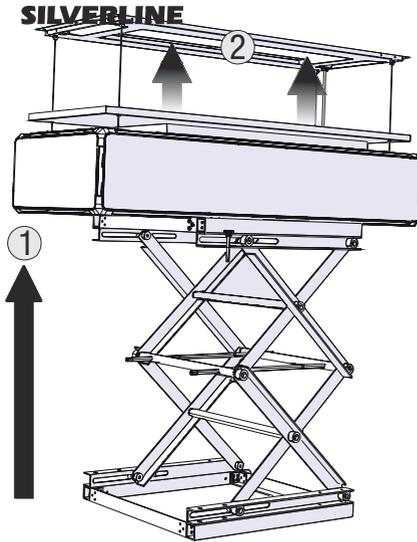

Fig. 25
6. ➤ Place the device on a platform and lift it up (Fig. 25 / 1).
Lift the hanger plate up (Fig. 25 / 2).